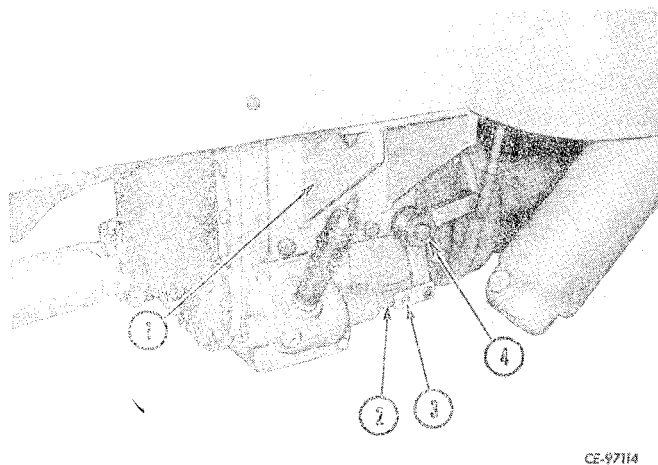

Figure 4-13
Remove rear axle disconnect from right hand transmission mount (1, Fig. 4-13) by removing cotter pin and pin (3) from shifter rail (2) and bolt (4) from mount.